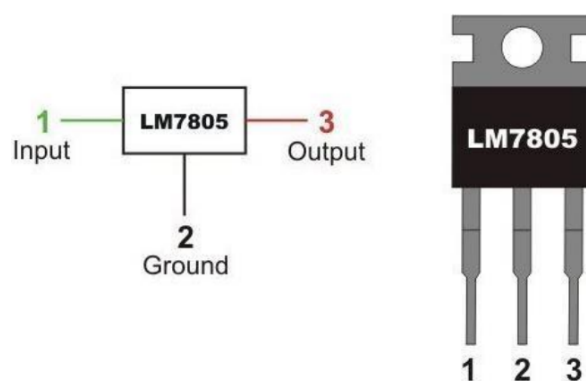
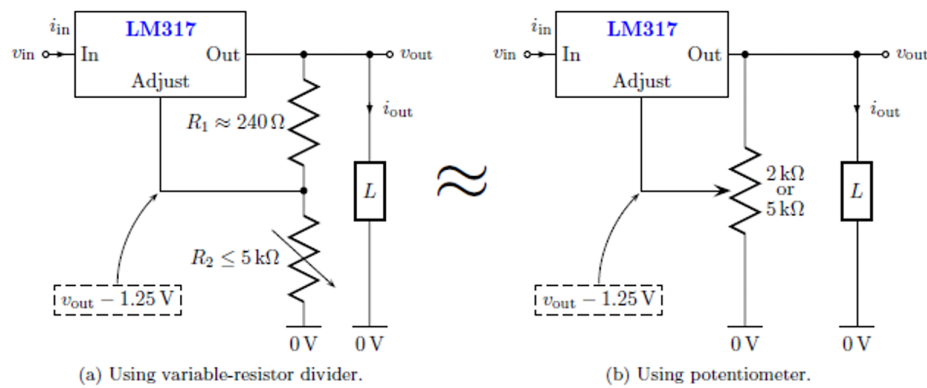

Figure 2: LM7805 voltage regulator
Figure 5: Using variable resistor divider
1. Design (i.e., choose components for desired output) and build the regulator in Figure 2(a) or (b).
- Use equation (1) to calculate the proper  $R_1/(R_1 + R_2)$  ratio.
- (i) From Figure 5(a), set  $R_1 \approx 240$  and calculate  $R_2$ . Implement  $R_2$  with a variable resistor made from adjacent legs of a 2 k or 5 k potentiometer.
- (ii) From Figure 5(b), adjust a 2 k or 5 k potentiometer for the right  $R_1/(R_1 + R_2)$  ratio.